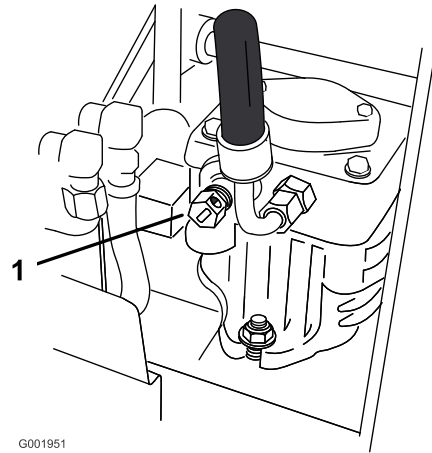

Figure 23
2. Open the bypass valve on both pumps by turning them counterclockwise 1 to 2 turns. This allows hydraulic fluid to bypass the pumps and the wheels to turn (Figure 23).